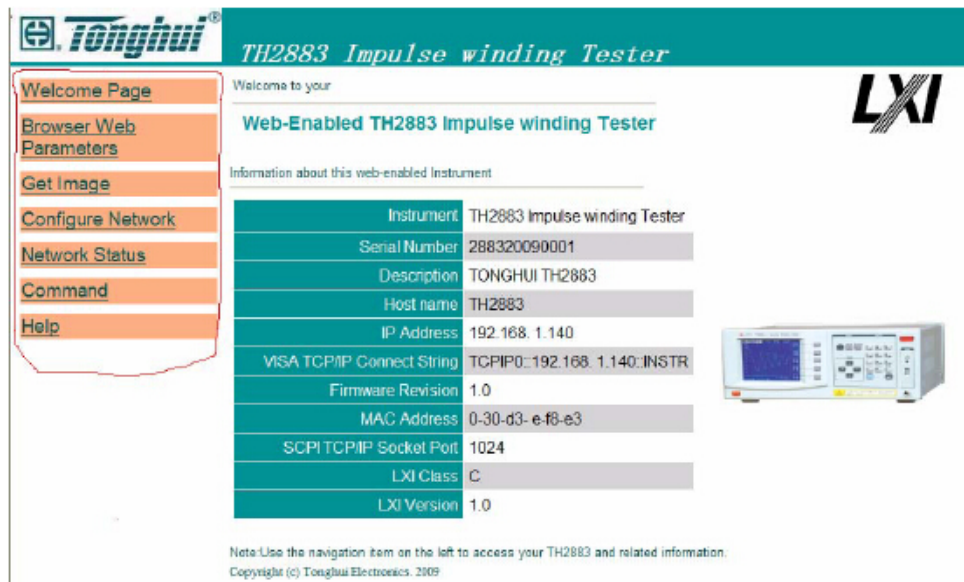

Figure 6-10 Access to TH2883 through a browser
- (1) Start up Internet Explorer.
- (2) Input <http://192.168.1.140/> in the address zone and then press ENTER to finish inputting.
- (3) The startup screen of Web server is shown as figure 6-10.